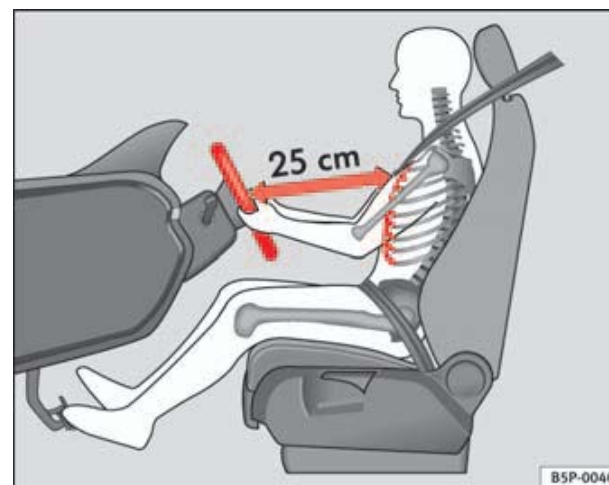

Fig. 113 Proper sitting position for driver
- Adjust the steering wheel in this way until the correct position is set ⇒ fig. 113.
- Adjust the driver seat or steering wheel so that there is a distance of at least 25 cm between the steering wheel and your chest ⇒ page 150, fig. 113. If you fail to observe the minimum distance, the airbag will not protect you. Risk of fatal injury.